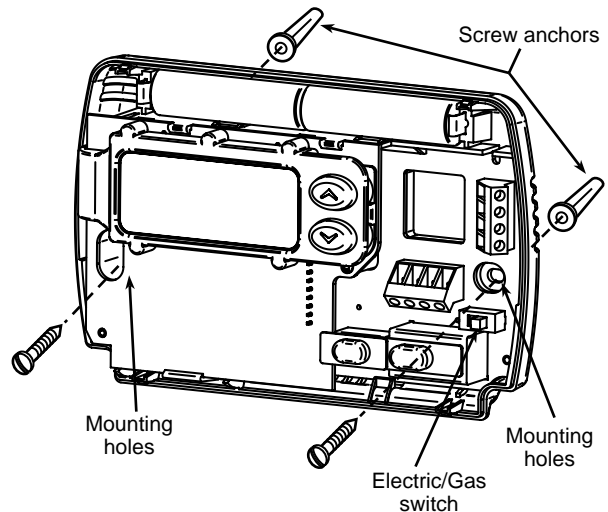

Figure 1. Thermostat Base
This thermostat is configured from the factory to operate a heat/cool, fossil fuel (gas, oil, etc.), forced air system. It is configured correctly for any system that DOES NOT require the thermostat to energize the fan on a call for heat. If your system is an electric heat or heat-pump system that REQUIRES the thermostat to turn on the fan on a call for heat, locate the **GAS/ELECTRIC switch** on the back of the thermostat (see fig. 1) and switch it to the **ELECTRIC** position. This will allow the thermostat to energize the fan immediately on a call for heat. If you are unsure if the heating/cooling system requires the thermostat to control the fan, contact a qualified heating and air conditioning service person.
5. Fasten base loosely to wall, as shown in fig. 1, using two mounting screws. Place a level against bottom of base, adjust until level, and then tighten screws. (Leveling is for appearance only and will not affect thermostat operation.) If you are using existing mounting holes, or if holes drilled are too large and do not allow you to tighten base snugly, use plastic screw anchors to secure subbase.
If "**LO BATTERY**" is displayed, the batteries are low and should be replaced with fresh "AA" Energizer® alkaline batteries. To replace batteries, install the batteries along the top of the base (see Fig. 1). The batteries must be installed with the positive (+) end to the left.